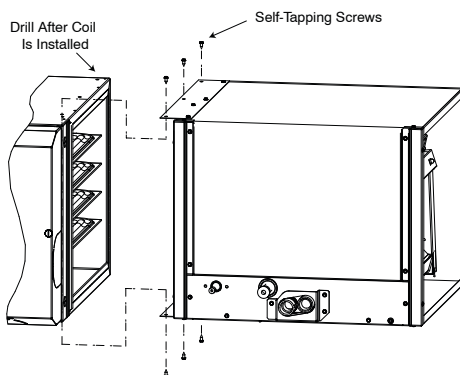

Fig. 6 – Attach Coil to Furnace
4. Use self-tapping screws to attach furnace. See Fig. 6.